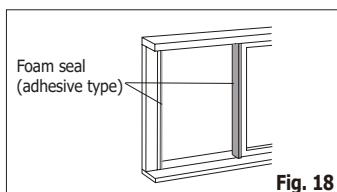

Fig. 18
1. Cut the foam seals(adhesive type) to the proper lengths and attach them to the window frame. See Fig.18.